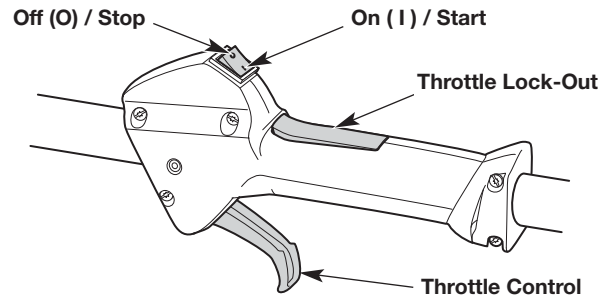
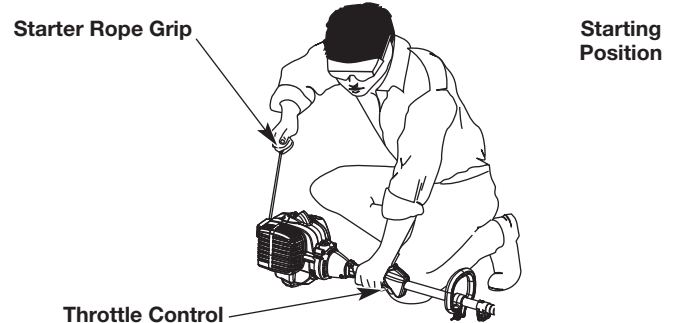

Fig. 12
Fig. 14
WARNING: Avoid accidentally starting the unit. To avoid serious injury, the operator and the unit must be in a stable position when pulling the starter rope (Fig. 14).
NOTE: There is no need to turn the unit on. The On/Off switch is in the ON (I) position at all times (Fig. 12).
5. Crouch in the starting position (Fig. 14).
6. Press the throttle lock-out and squeeze the throttle control (Fig. 12). Pull the starter rope with a controlled and steady motion **5 times** (Fig. 14).
2. Press and hold the On/Off switch in the OFF (O) position until the engine comes to a complete stop (Fig. 12).